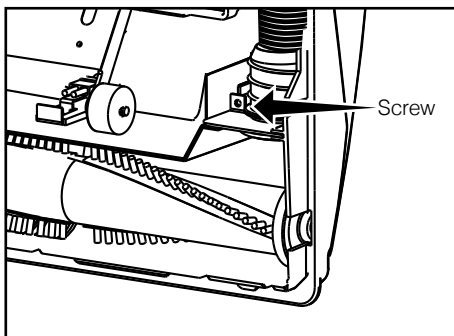

Fig. 3
- Turn the vacuum over and remove the bottom plate (See page 18). Remove one screw at the base of nozzle hose (Fig. 3). Clear hose of blockage and replace screw. Reinstall the bottom plate.